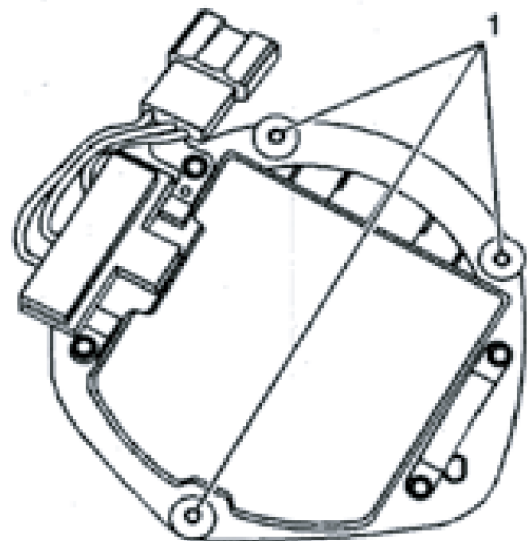

FIG. 2
NOTICE: The new blower motor (35121) matches OE second design. See Fig. 2.
- Install the fiberglass heat shield with the 3 blower motor mounting screws indicated in Fig. 2.